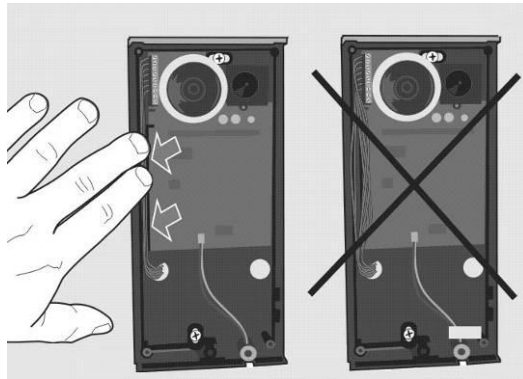

Figure 2.7 Cabling
9. Connect the cables as described in subsection 2.4, Mounting – Electrical Installation. Make sure that the cables are not squeezed while installing the plastic cover. For the correct cable installation, refer to Figure 2.7.
- Make sure that the cables leading through the 2N® Helios IP Vario cover bottom groove are installed properly. For the correct installation of the cables refer to Figure 2.7.